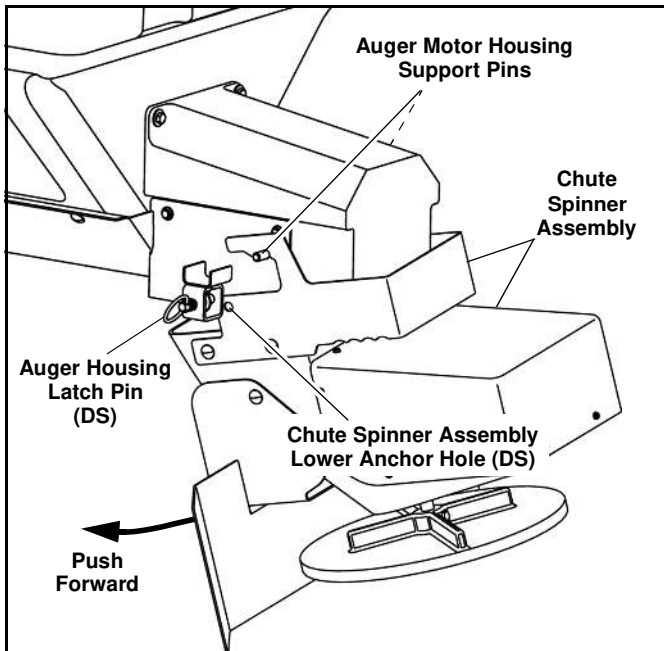

Figure 1-17
1. Position the chute spinner assembly on the auger housing support pins and push the bottom of the unit forward (See Figure 1-17).